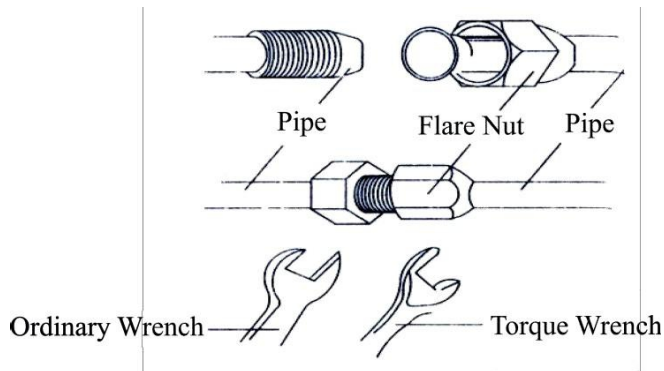

Fig.18
- After that, tighten the screw by the torque wrench unit it clatters (as shown in Fig. 18).